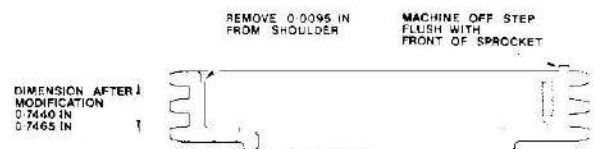

Fig. C7. Shock Absorber Modifications
- (1) Ensure that no casting marks or numbers are standing proud in the shock absorber which could restrict the paddle movement.
- (2) Measure the depth of the spider location (see Fig. C7). Later shock absorbers have a dimension of 0.7560/0.7535 in. This depth need not
be modified. If the shock absorber is not within these dimensions, it is an early type and must be modified by removing 0.0095 in. from the shoulder (see Fig. C7). This ensures that the spider end float is controlled to within a 0.001/0.0054 in. tolerance.
- (3) Several early shock absorbers have a lip on the front face (see Fig. C7). This serves no useful purpose and does not allow the use of service tool 61-6105 to check sprocket alignment without necessitating certain compensations. It is either necessary to remove this lip by machining flush with the front face of the sprocket (see Fig. C7), or to compensate for it as described in "Checking and Correcting Alignment".
- (4) Replace the two needle roller bearings, part number T3643, which support each journal of the shock absorber with 0.0015 in. undersize bearings, part number T11805.
Two types of shock absorber body have been used. The early type has a shoulder on the front face, whereas the later type does not (see Fig. C7). When alignment with service tool 61-6105 on th
Position service tool 61-6105 against the faces of the shock absorber and engine sprockets (see Fig. C7). If the sprockets are in line each of the four legs of the tool will touch the front and rear of each sprocket.